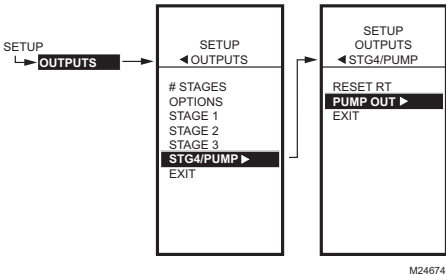

Fig. 47. Setup Last Output.
1. From the Outputs menu, use the ▲ and ▼ buttons to highlight the last Stage (Fig. 47 shows Stage 4 as the last relay output). If used, the pump output will be either 4, 8, or 12 depending on the number of stages. See “1.3.1. Number of STAGES” on page 15.